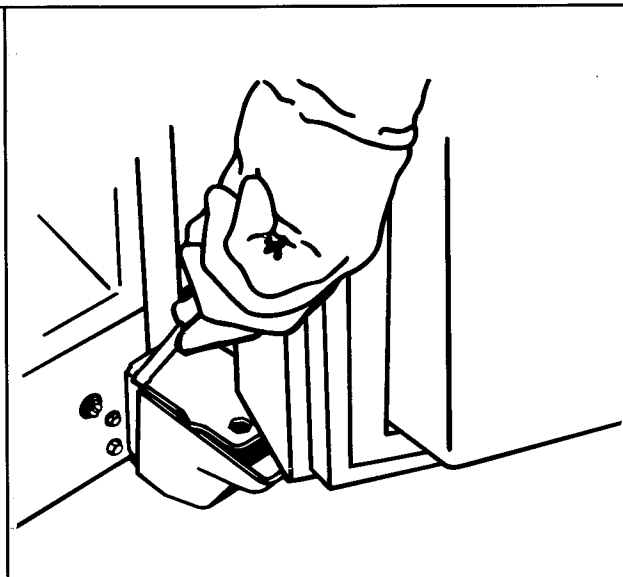

Figure 8
- a. Using a flat blade screwdriver pry free upper right and left side of hinge lap. See Figure 8.